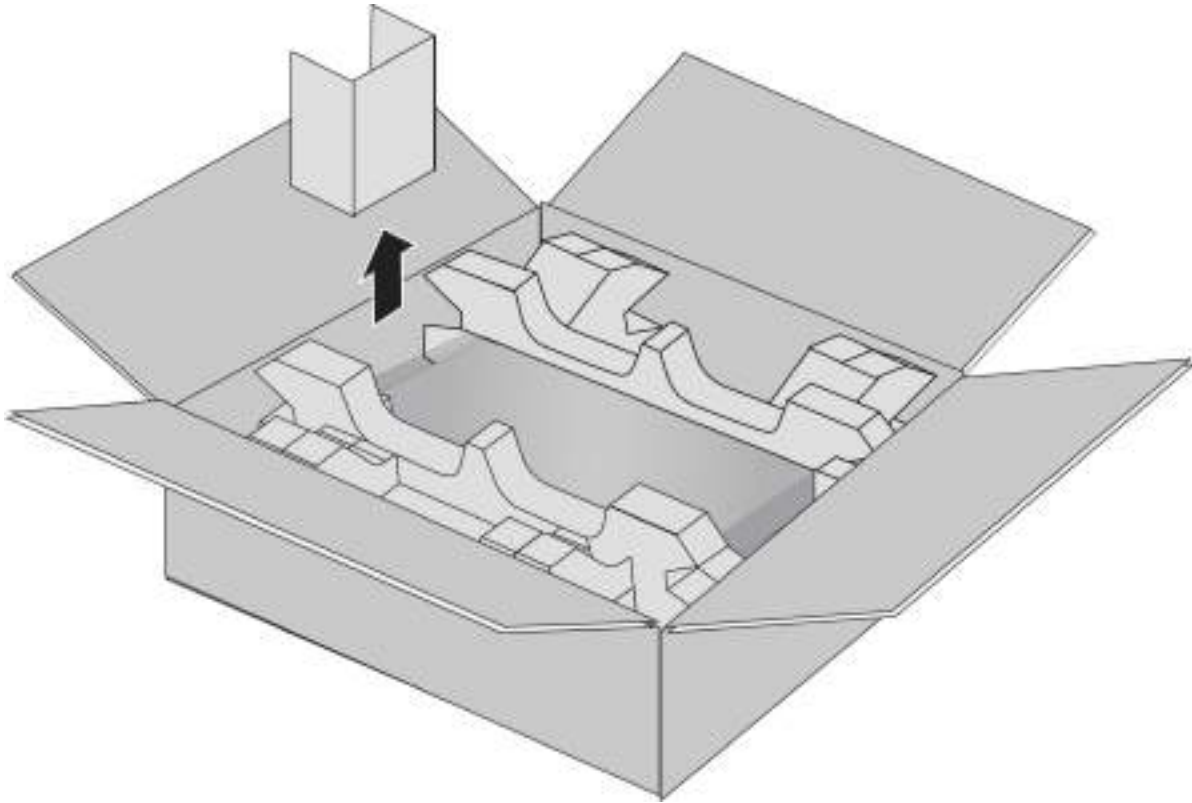

Figure 29. Removing the Shipping Box Partition
2. Remove the accessory box partition. Refer to Figure 29 on page 74.